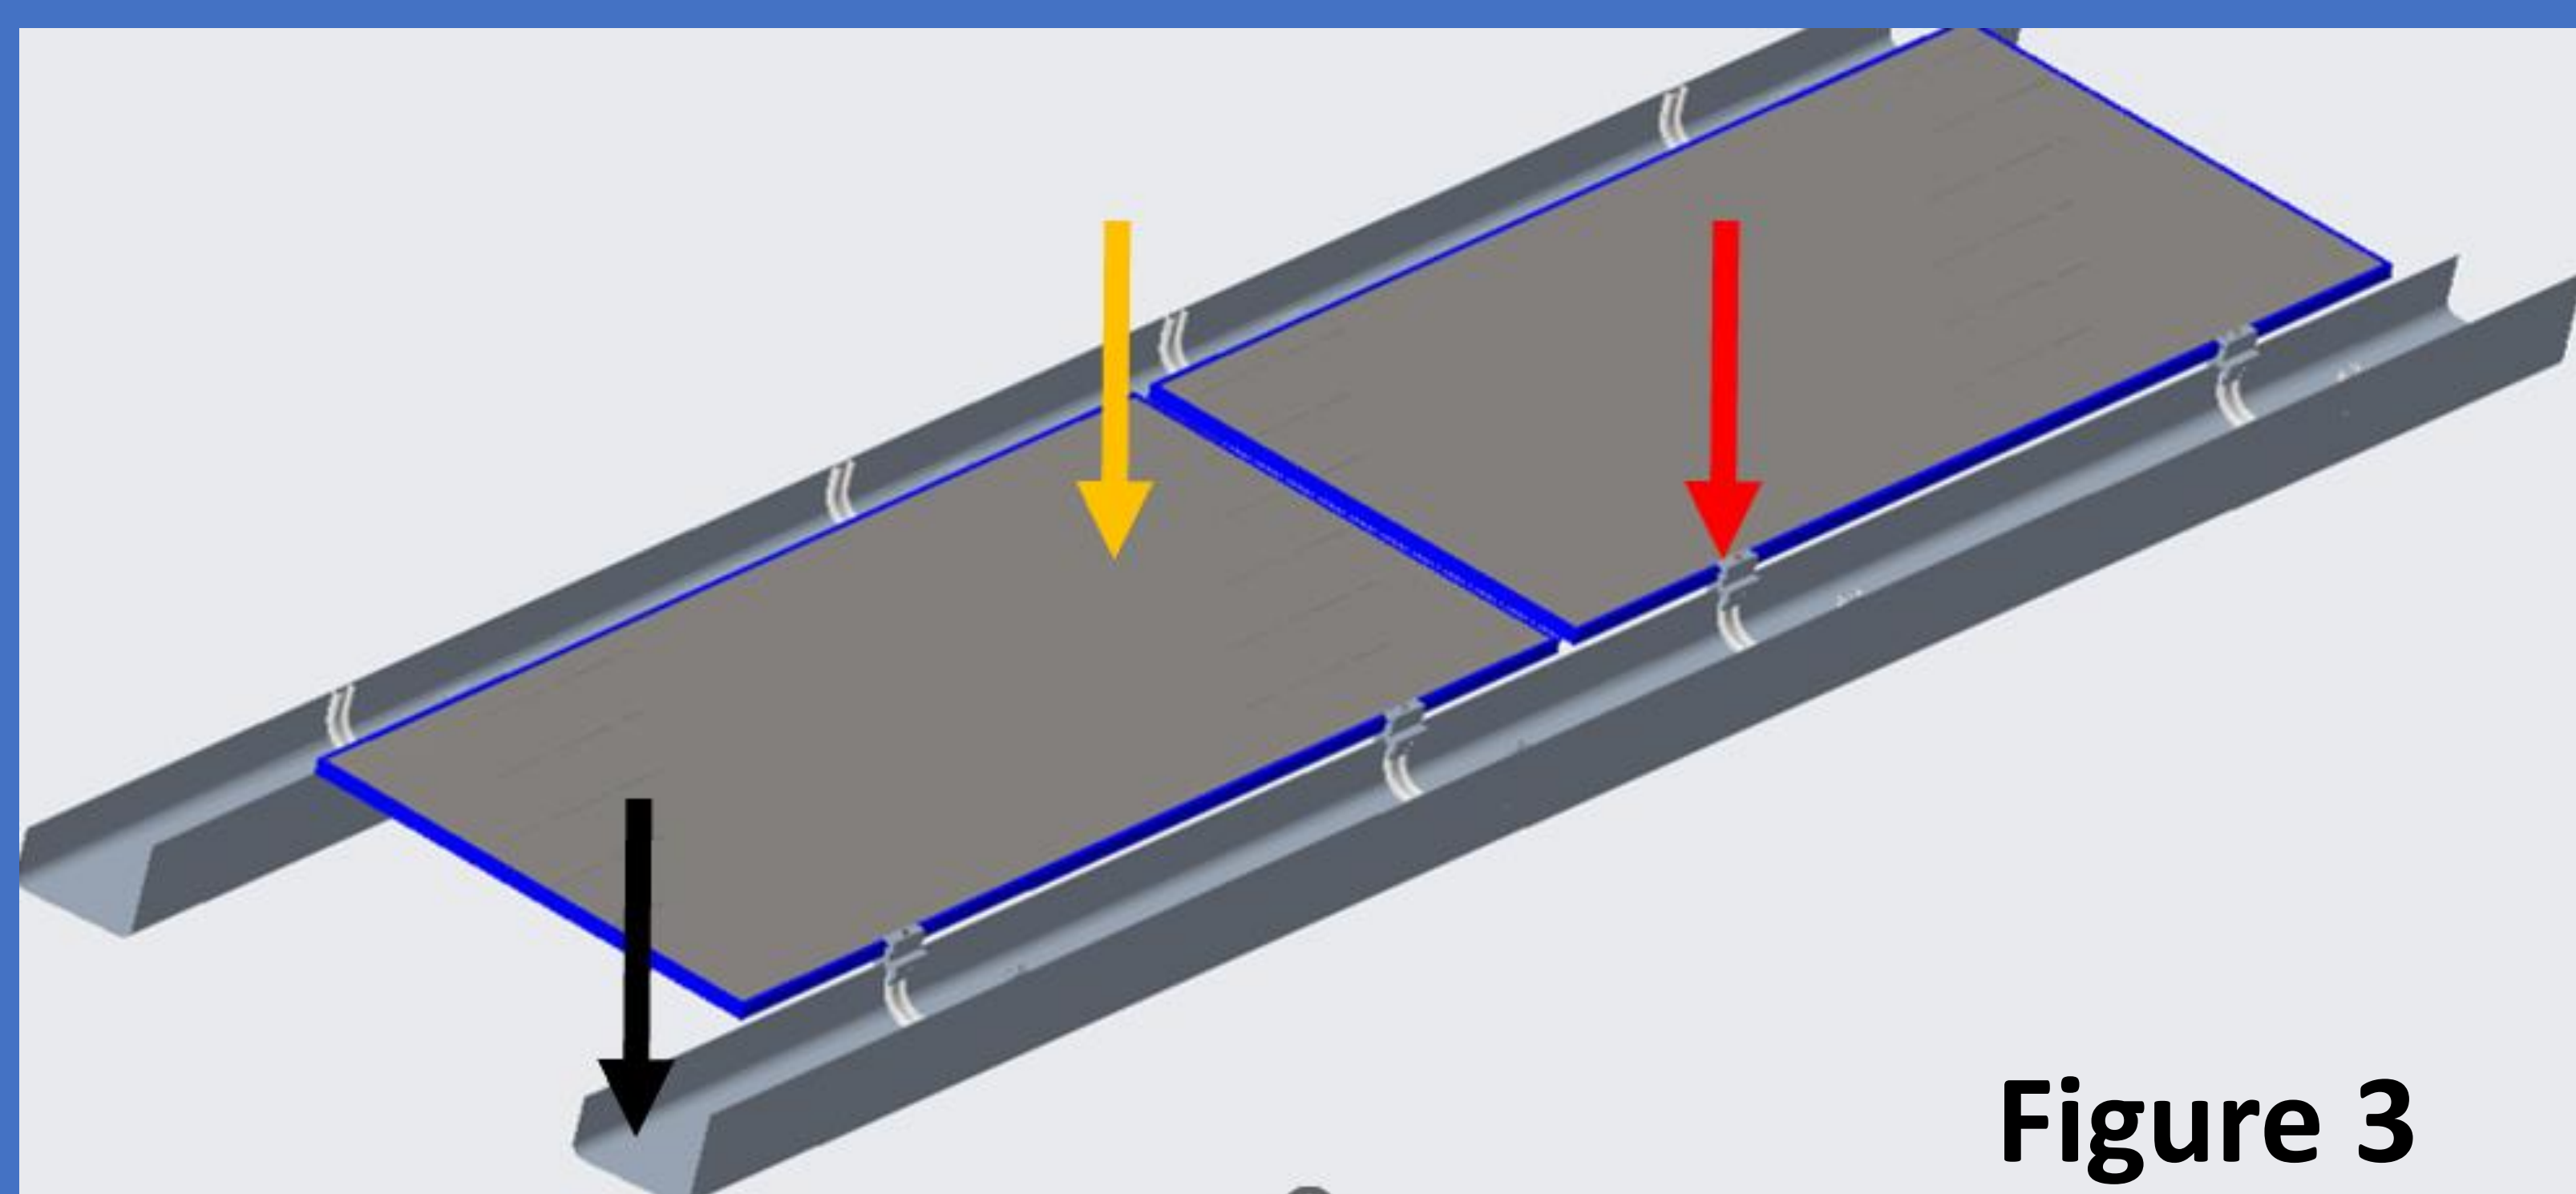

Figure 3
- The Roll-a-Rack racking system has *two-components*, a roll-formed, gutter-like channel (Figure 3, black arrow) and a support bracket (red arrow) that secures the solar panel (orange arrow) to the channel.